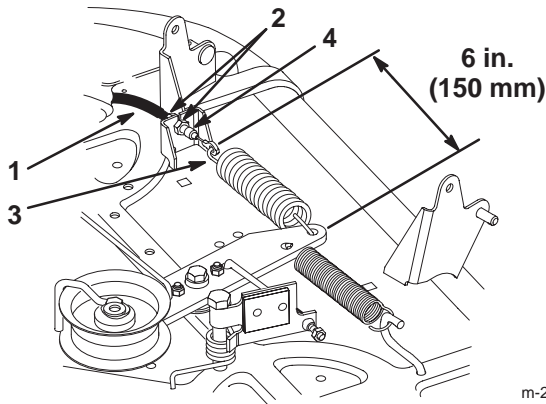

Figure 43
17. Engage the blade control (PTO) lever on the dash. Measure the distance between the hook ends of the idler spring (Fig. 43). Adjust the jam nuts until a 6 in. (150 mm) dimension is obtained (Fig. 43).